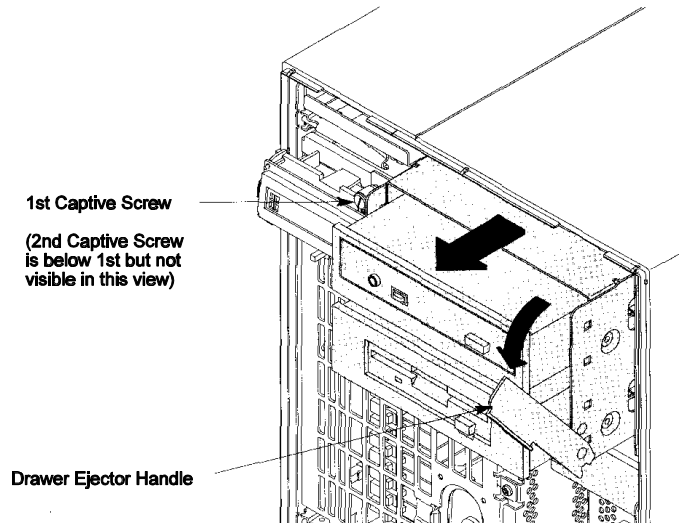

Figure 2
- b. Loosen the two captive screws at the top center (figure 2).
- d. When the storage assembly is approximately 2/3 out, depress the safety latch on the left side and remove the storage assembly completely from the workstation (figure 2).